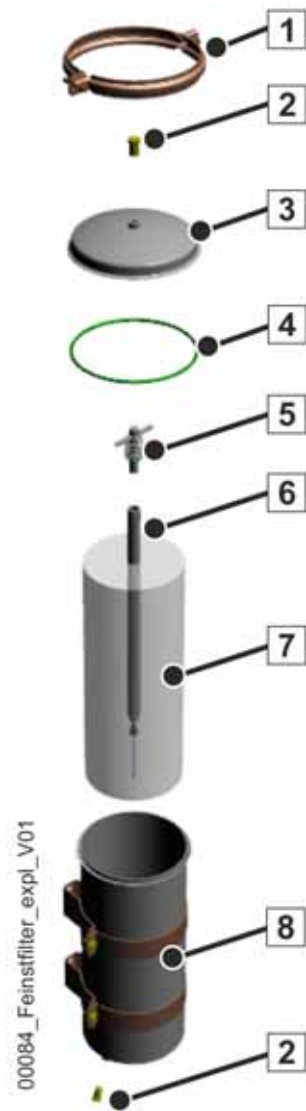

Fig. 503 Design of the ultra-fine filter
Caption (Fig. 503)
- Carefully remove the screw connection on the cover retaining clamp (1) (**Fig. 503**). Only remove the cover (3) if the oil level has gone down as the oil will overflow otherwise.
- Remove the cover retaining clamp (1) and the filter cover (3) (**Fig. 503**).
- Loosen and remove the retaining bolt (5) for the filter element (7). Replacing the retaining bolt seal is part of replacing the filter.
- Tighten the filter element (7) on the specially-provided stirrups of the drain pipe (6).
- Remove the coarse contamination in the filter housing (8) (**Fig. 503**).
- Inspect the cover seal (4) for damage and replace it if necessary.